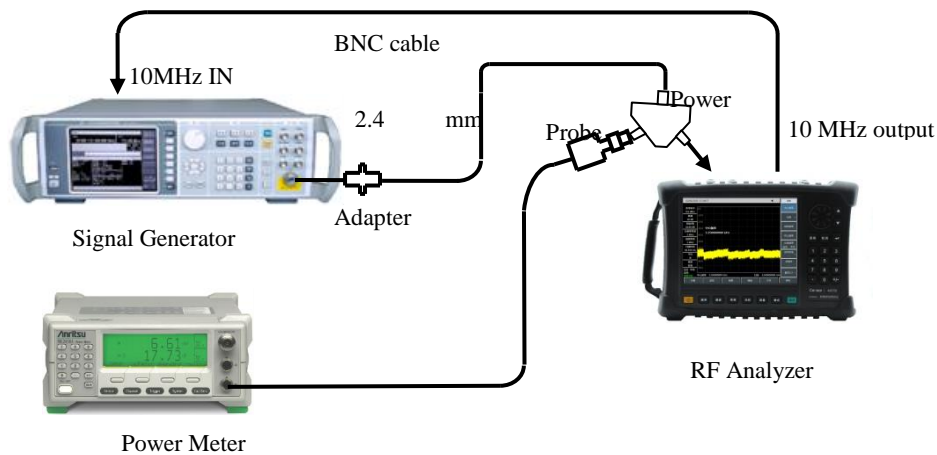

Figure 16-17 Scale fidelity
- b) Connect the test equipment as shown in Figure 16-17. The instrument is used to provide reference frequencies for the composite signal generator. The output ends of the signal source are respectively connected to the instrument and the power probe via a power splitter.